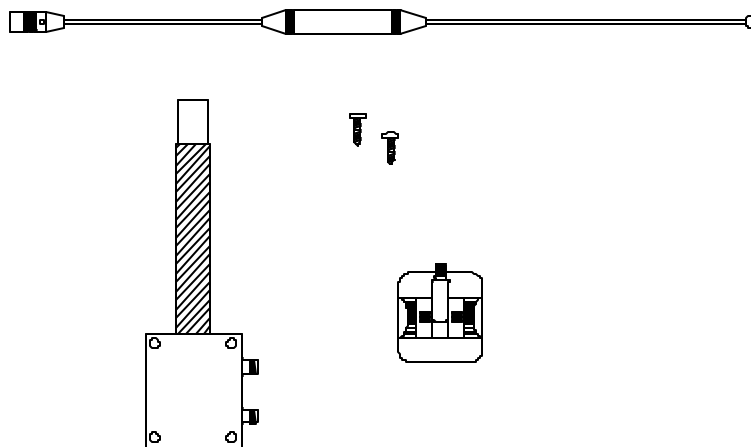

Figure 1 – General Assembly
1. **Part List:** The package includes an antenna, coupler, cables, mounting hardware and connectors for the two-way radio. Use only the components supplied with the antenna (Refer to Figure 1).